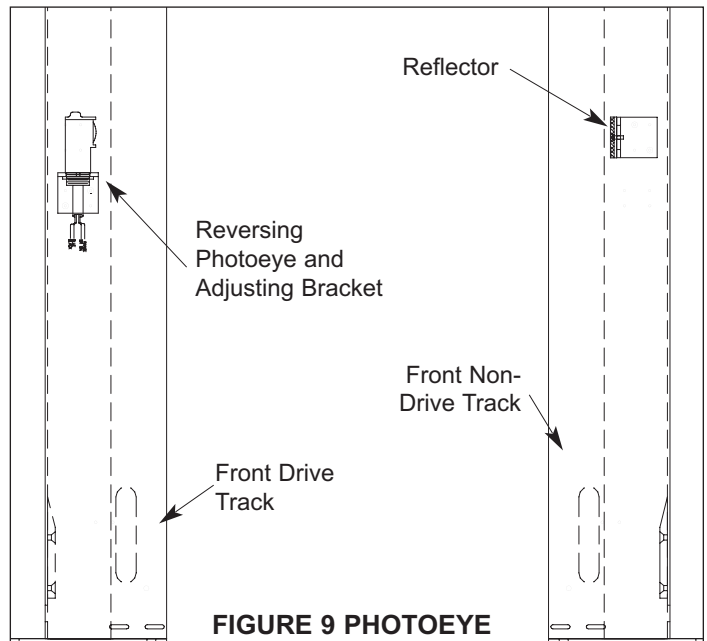

FIGURE 9 PHOTOEYE
2. Attach the photoeye brackets to the front track at the pre-drilled holes, **Figure 9**.
5. To set the vertical alignment loosen the mounting bracket attachment bolts slightly and rotate the mounting bracket until the RED and GREEN LEDs turn on, **Figure 9**.